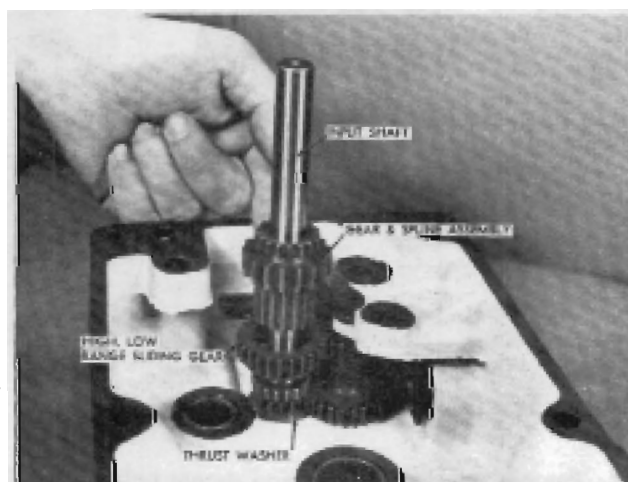

FIGURE 13
8. Install the input shaft, sliding it down through the high-low range sliding gear and thrust washer. Figure 13.
9. Install the gear and spline assembly over the input shaft, sliding the spline down through the sliding gear. Figure 13.